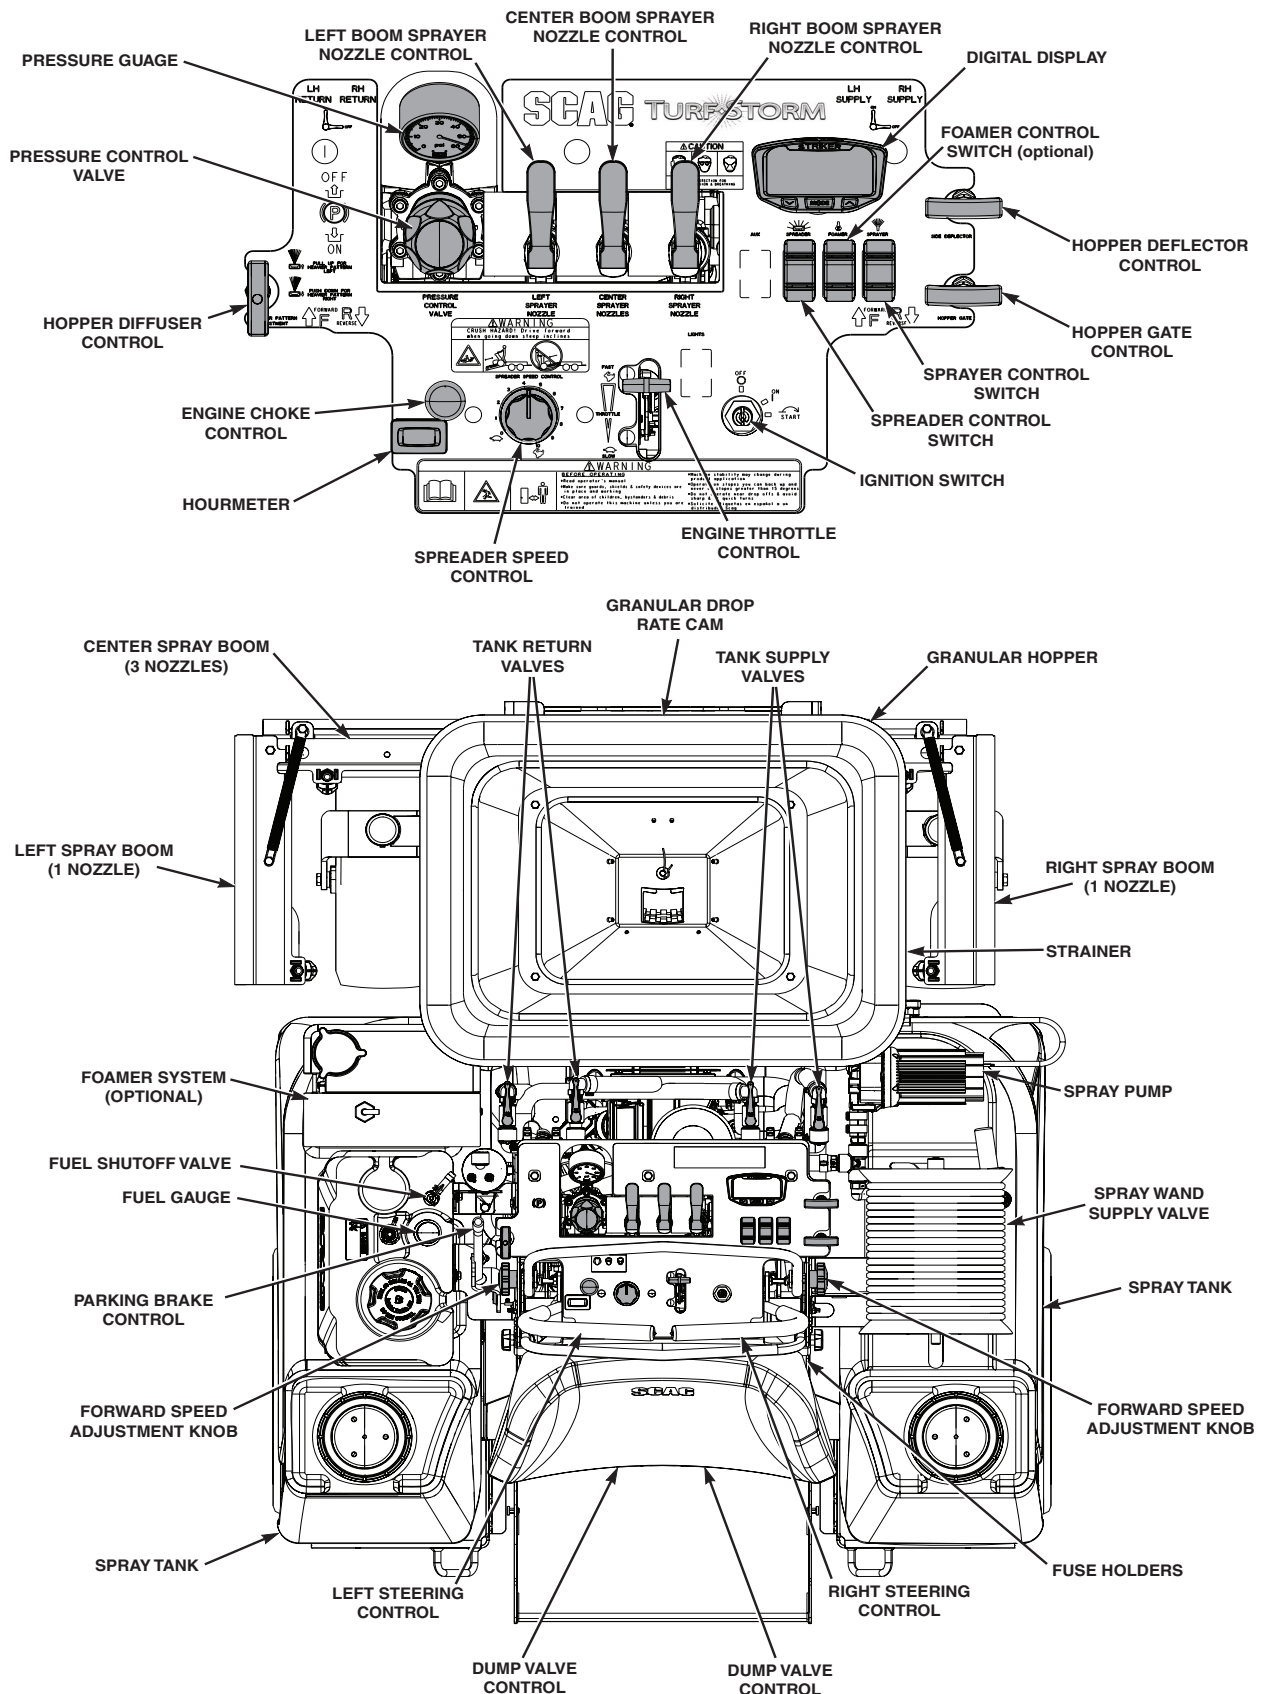

Figure 4-2. Controls and Instruments
1. **Ignition Switch (Figure 4-2).** The ignition switch is used to start the engine and has three positions; OFF, ON, and START.
2. **Engine Choke Control (Figure 4-2).** Used to start a cold engine.
3. **Engine Throttle Control (Figure 4-2).** Used to control the engine speed. Pushing the lever forward increases engine speed. Pulling the lever back decreases engine speed. Full back position is the IDLE position. Full forward is the driving position.
4. **Left Steering Control (Figure 4-2).** Used to control the machine's left wheel when traveling forward or reverse. See Section 4.7 for further details regarding the machine's travel controls.
5. **Right Steering Control (Figure 4-2).** Used to control the machine's right wheel when traveling forward or reverse. See Section 4.7 for further details regarding the machine's travel controls.
6. **Parking Brake Control (Figure 4-2).** Used to engage and disengage the parking brakes and lock the steering handles in neutral. Pull the lever back to engage the parking brakes. Push the lever forward to disengage the parking brakes.
7. **Fuel Tank Gauge (Figure 4-2).** Indicates the amount of fuel in the fuel tank.
8. **Fuse Holders (Figure 4-2).** Three (3) 20-amp fuses protect the machine's electrical system. To replace fuses, pull fuse out of the socket and install a new fuse.
9. **Fuel Shutoff Valve (Figure 4-2).** Located on top of the fuel tank. Used to shut off fuel supply to the engine. Rotate the valve counter clockwise to supply fuel from the tank to the engine. Rotate the valve clockwise to shut off the fuel supply to the engine.
12. **Pressure Control Valve (Figure 4-2).** Located in the control panel cut out, the sprayer pressure adjuster is used to adjust the spray system pressure.
13. **Pressure Gauge (Figure 4-2).** Located in the control panel cut out, is used to display the sprayer systems pressure. When the spray nozzles are open, the sprayer system pressure will decrease slightly. Adjust the Pressure Control Valve to compensate for the loss in pressure.
14. **Left Boom Sprayer Nozzle Selector (Figure 4-2).** Located in the control panel cut out, allows the operator to turn the left hand spray boom nozzle on or off.
15. **Center Boom Sprayer Nozzle Selector (Figure 4-2).** Located in the control panel cut out, allows the operator to turn the center spray boom nozzles on or off.
16. **Right Boom Sprayer Nozzle Selector (Figure 4-2).** Located in the control panel cut out, allows the operator to turn the right hand spray boom nozzle on or off.
17. **Strainer (Figure 4-2).** Located next to the pump, the strainer filters the sprayer system and traps debris inside of the system before reaching the sprayer pump.
- 18. Tank Supply Valves (Figure 4-2).** Located in front of the control panel, these valves control the draw from the tanks and supply the sprayer system.
- 19. Tank Return Valves (Figure 4-2).** Located in front of the control panel, these valves control the return flow to the tanks from the sprayer system.
- 20. Hopper Diffuser Control (Figure 4-2).** Located on the control panel, the hopper diffuser control allows the user to equalize the the material spread from side to side.
- 21. Spreader Speed Control (Figure 4-2).** Located on the control panel, the spreader speed control, controls the speed of the spreader motor and should be adjusted to control the width of the spread pattern.
- 22. Granular Drop Rate Cam (Figure 4-2).** Located in front of the machine below the hopper, is used to control the drop rate of the granular product from the hopper.
- 23. Granular Hopper (Figure 4-2).** Located at the front of the machine, the granular hopper has a 220# (100 kg) capacity.
- 24. Spreader Control Switch (Figure 4-2).** Located on the control panel, the spreader control switch activates / deactivates the spreader motor. Stepping off the operator platform will also shut off the spreader motor.
- 26. Hopper Deflector Control (Figure 4-2).** Located on the control panel, the hopper deflector control activates / deactivates the side deflector for the spreader system.
- 27. Hopper Gate Control (Figure 4-2).** Located on the control panel, the hopper gate control opens / closes the hopper gate.
- 28. Sprayer Control Switch (Figure 4-2).** Located on the control panel, the sprayer control switch activates / deactivates the pump for sprayer system.
- 29. Foamer Control Switch (Figure 4-2). (optional accessory).** Located on the control panel, the foamer control switch activates / deactivates the foamer system.
- 30. Left / Center / Right Spray Booms (Figure 4-2).** Located on the front of the machine, the spray boom is divided into 3 sections (left, right, and center) and are controlled by each boom's Sprayer Nozzle Control lever.
- 31. Nozzles (Figure 4-2).** Located on the spray boom, the nozzles produce a fine mist for proper application of product.
- 32. Spray Wand Supply Valve (Figure 4-2).** Located by the hose reel, the valve controls the draw from the tanks and supplies the hose reel with chemicals.
- 33. Spray Tank (Figure 4-2).** Located on both sides of the machine, are used to mix and supply chemicals to the sprayer system.